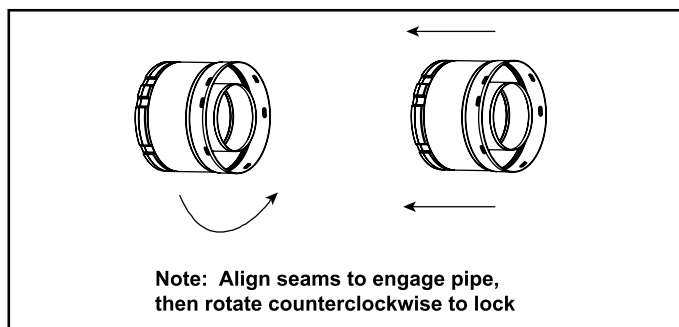

Figure 7.12
- Align the seam of the pipe and seam of collar to allow engagement. Rotate the flue component to lock into place. Use this procedure for all flue components. See Figure 7.12.